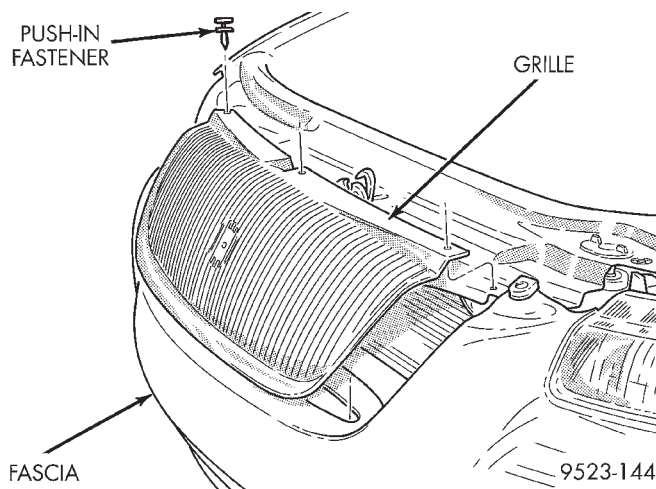

Fig. 1 Grille
(1) Remove front bumper fascia, refer to Group 13, Bumpers and Frame for proper procedures.
(2) Using a suitable drill, remove rivets holding grille to front fascia.
(3) Separate grille from fascia (Fig. 1).